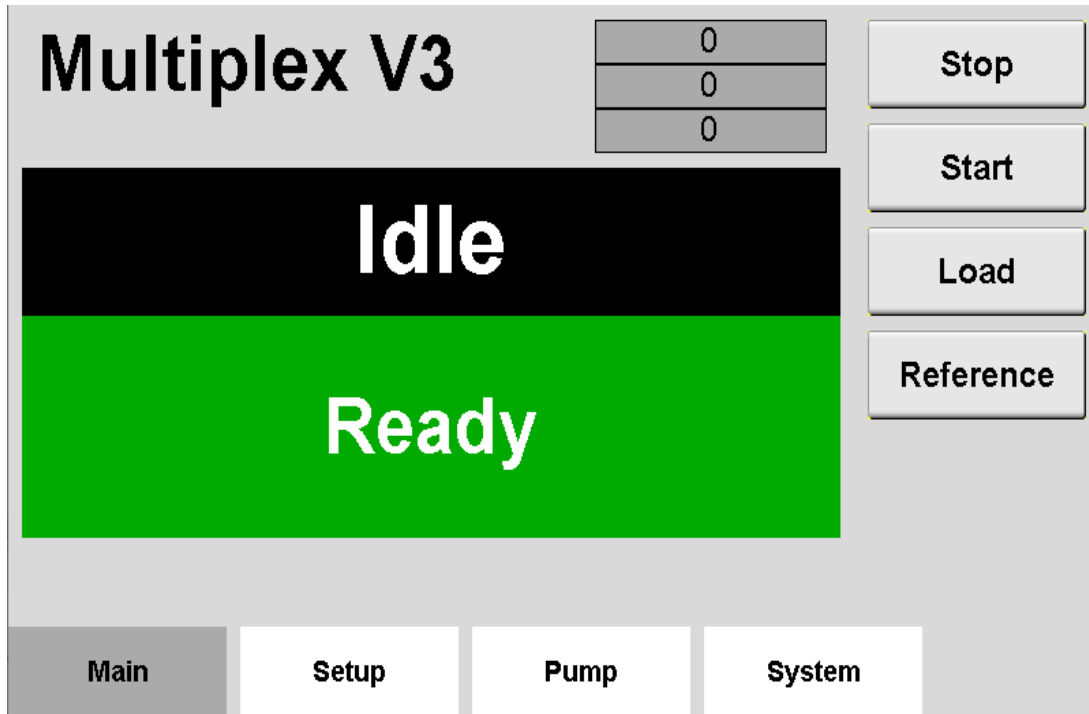
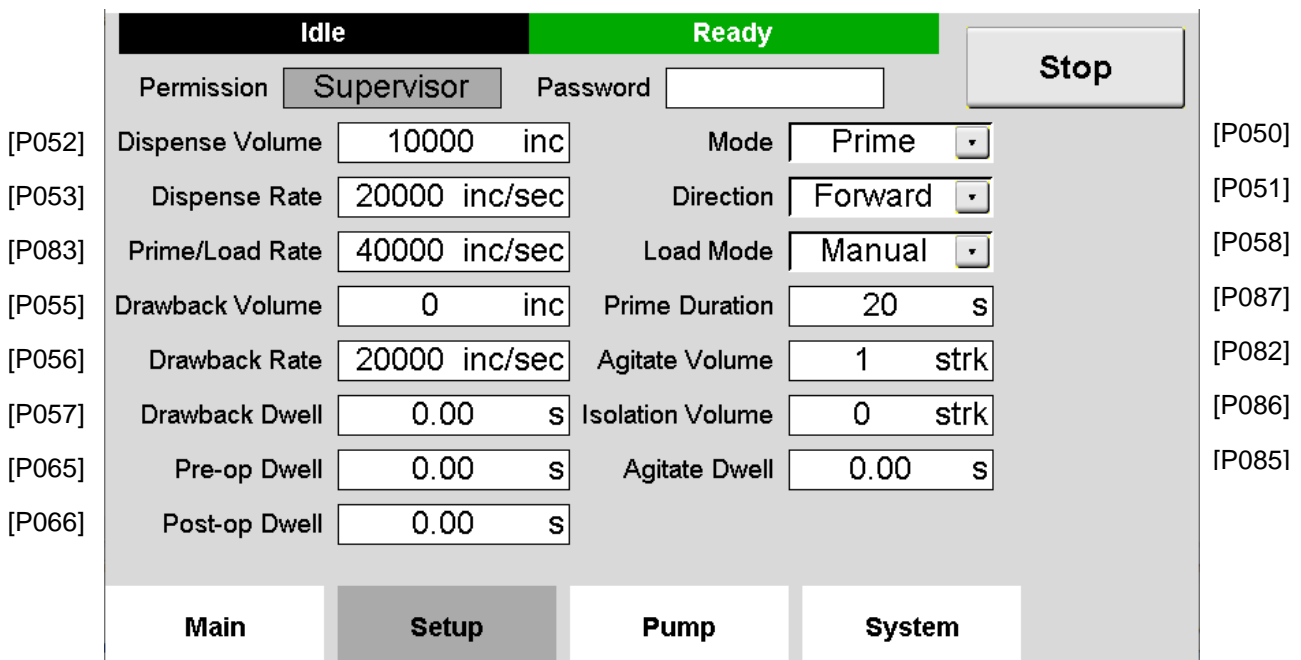
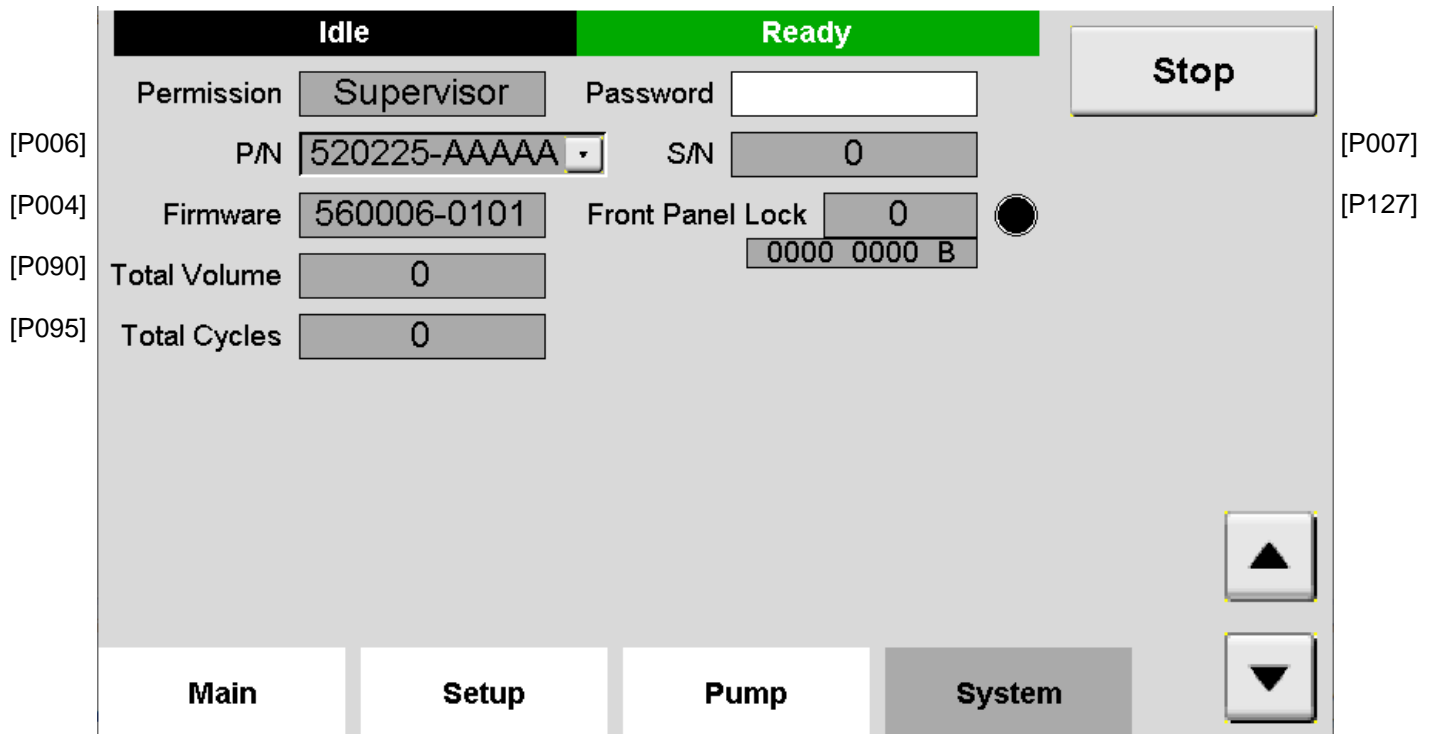

Figure 3.5 Main Screen
Figure 3.6 Setup Screen
Figure 3.8 System Screen
Prime mode produces a continuous cycle to pump fluid in one direction. The current setting for the liquid direction determines the direction of the fluid flow. The operating mode and liquid direction setting can be viewed in the Setup screen (Figure 3.6). Pumping is started using the "START" button in the Main screen (Figure 3.5). The pumping will continue until the "STOP" Button is pressed or until the maximum time set with the "PRIME DURATION" button in the
Setup screen (Figure 3.6) is reached. The time-out ensures a communications problem will not result in the pumps operating forever.
The flow rate for priming is set in the Setup screen (Figure 3.6). Volume pumped during prime operation does not accumulate on the totalizer viewed in the System screen (Figure 3.8).
Dispense and Dispense MCV (minimum chamber volume) modes are used to deliver a specific volume of fluid at a specific rate. Dispense MCV will only fill the chamber with the amount of liquid to be dispensed. Dispense fills the entire chamber. The current setting for the liquid direction determines the direction of the fluid flow. The operating mode and liquid direction setting can be viewed in the Setup screen (Figure 3.6). Pumping is started using the "START" button in the Main screen (Figures 3.5). The dispense cycle will continue until the volume, set using the Setup screen (Figure 3.6) has been delivered, unless the "STOP" button is pressed.
The volume and the rate are set in the Setup screen (Figure 3.6). A Load cycle is required anytime the mode is changed to or from Dispense MCV Mode.
Meter mode is used to deliver fluid at a specific rate for a specific time determined by hardwired input signals or through the touchscreen. The operating mode and liquid direction setting can be viewed in the Setup screen (Figure 3.6). The most accurate and repeatable method to control metering operation uses the hardwired PLC inputs. Pumping starts when the hardwired signal is present and will stop when the hardwired signal stops. Pumping can also be operated with the "START" and "STOP" buttons in the Main screen (Figures 3.5).
The metering rate is set in the Setup screen (Figure 3.6).
Volume pumped during meter operation accumulates on the totalizer which is viewed in the System screen (Figure 3.8).
Agitate is a unique mode used to prevent fluid from setting in the pumps or pump lines during extended idle times. Agitate mode is a reverse action followed by a sequence of reverse and forward pumping to keep the liquid in the lines and Pump Modules moving. The operating mode setting can be viewed in the Setup screen (Figure 3.6). Pumping is started using the "START" button in the Main screen (Figures 3.5). The agitate cycle will continue until the "STOP" button is pressed.
The Agitate Volume specifies the strokes the pump will operate in reverse then forward. The Isolation Volume specifies the number of full strokes operated in reverse. The Agitate Volume specifies the strokes the pump will operate in reverse then forward. The Agitate Dwell specifies the wait time between each reverse and forward cycle. All three of these settings are viewable in the Setup screen (Figure 3.6)
Under certain conditions the controller may require a reference cycle when a fault occurs because it does not sense the rotary position of the piston. When the "REFERENCE" button on the main screen (Figure 3.5) is pressed, the piston will find the rotary home and stop at this position.
The Drawback settings are done in the Setup screen (Figure 3.6). When drawback is used, the "VOLUME" button specifies the net fluid displaced, the actual forward motion is the sum of the specified dispense volume and the drawback volume. The flow rate during drawback as well as the dwell (time between the forward and reverse portions of the cycle) are specified with the "DRAWBACK RATE" and "DRAWBACK DWELL" buttons, respectively.
The load cycle is used to refill the pumping chamber with fluid after dispensing or metering. The piston will valve to the intake port (inlet), fill the pump chamber with fluid, and valve back to the discharge port (outlet). The system can be configured to start a load cycle on either of three conditions: empty, every or manual. The Load setting is done in the Setup screen (Figure 3.6).
Buttons - A button initiates a command being sent to the Controller Module. The "Start" and "Stop" area in the Main screen (Figure 3.5) are examples of buttons.
Boxes - A box looks like a button but provides information only. Pressing a box will have no effect on the system. The "Total Volume" area in the System Screen (Figure 3.8) is an example of a box.
The **Manual** level does not allow changing system parameters other than the I/O Test parameters (Figure 3.6).
The first screen displayed will be the Main screen (Figure 3.5). This screen is displayed each time power is turned on. The "REFERENCE" button must be pressed before the system will perform pumping operations.
3.2.5.4 Main Screen (Figure 3.5)
3.2.5.5 Setup Screen (Figure 3.6)
3.2.5.7 System Screen (Figure 3.8)